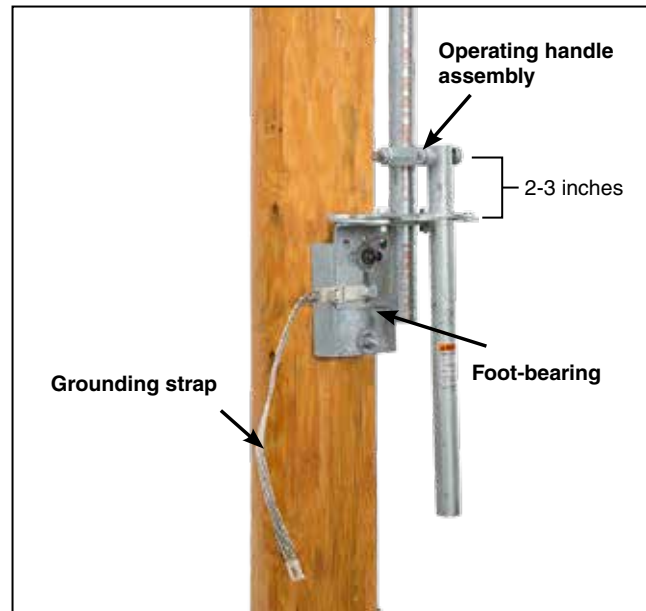

Figure 21. Install the foot-bearing assembly so the handle is two to three inches above the foot-bearing assembly.
STEP 20. Slide the foot-bearing assembly onto the lowest section of pipe at the position shown on the erection drawing. See Figure 21. Adjust the operating handle assembly until it is two to three inches above the foot-bearing assembly. Tighten the piercing set screws, piercing the pipe. Continue turning until a firm resistance is felt.